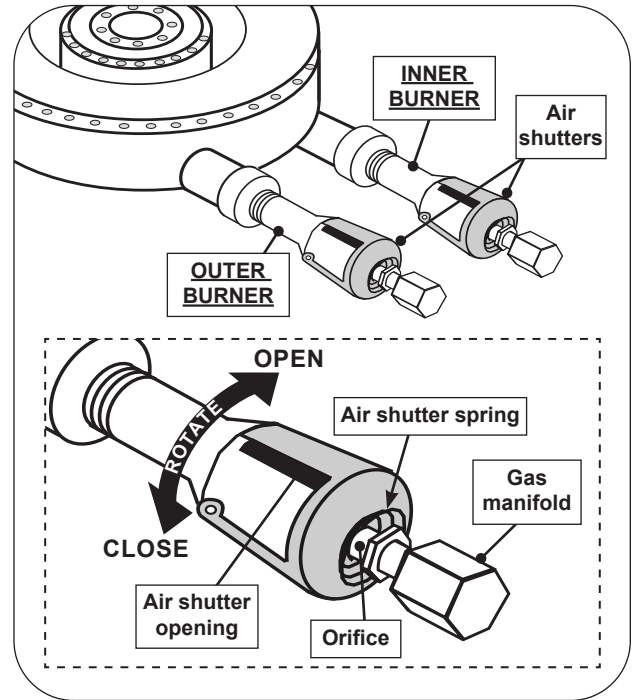

Fig. 37-1 Power burner air shutter adjustment detail
1. To adjust the air shutters, rotate the shutters to open or close them. See Fig. 37-1 for details.